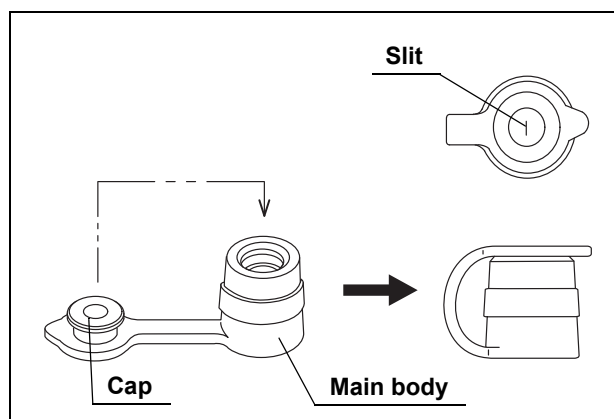

Figure 7.42
3. Detach the biopsy valve's cap from the main body, before immersing in the detergent solution (see Figure 7.42).